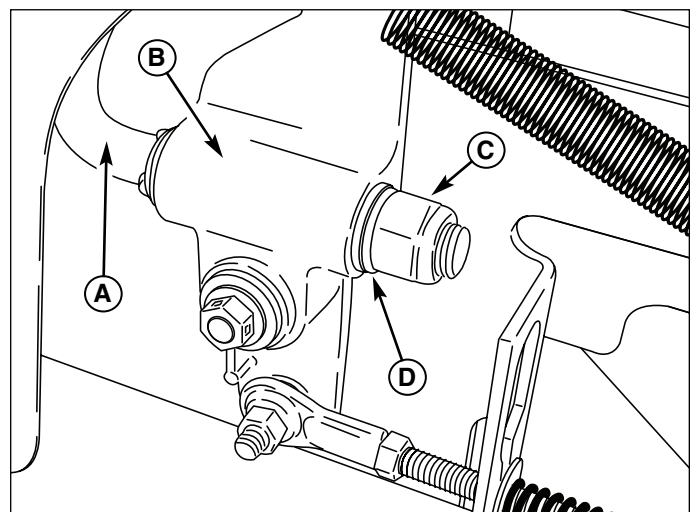

Figure 9. Motion Control Lever Friction Adjustment
Tighten the nyloc nut (C, Figure 9) securing the motion control lever (A) to the control bracket (B) against the nylon washer (D).